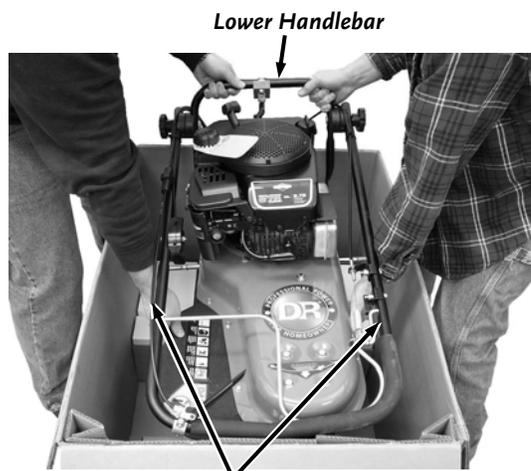

Figure 5
7. With help from another person, lift the Trimmer from the Shipping Box (**Figure 5**).